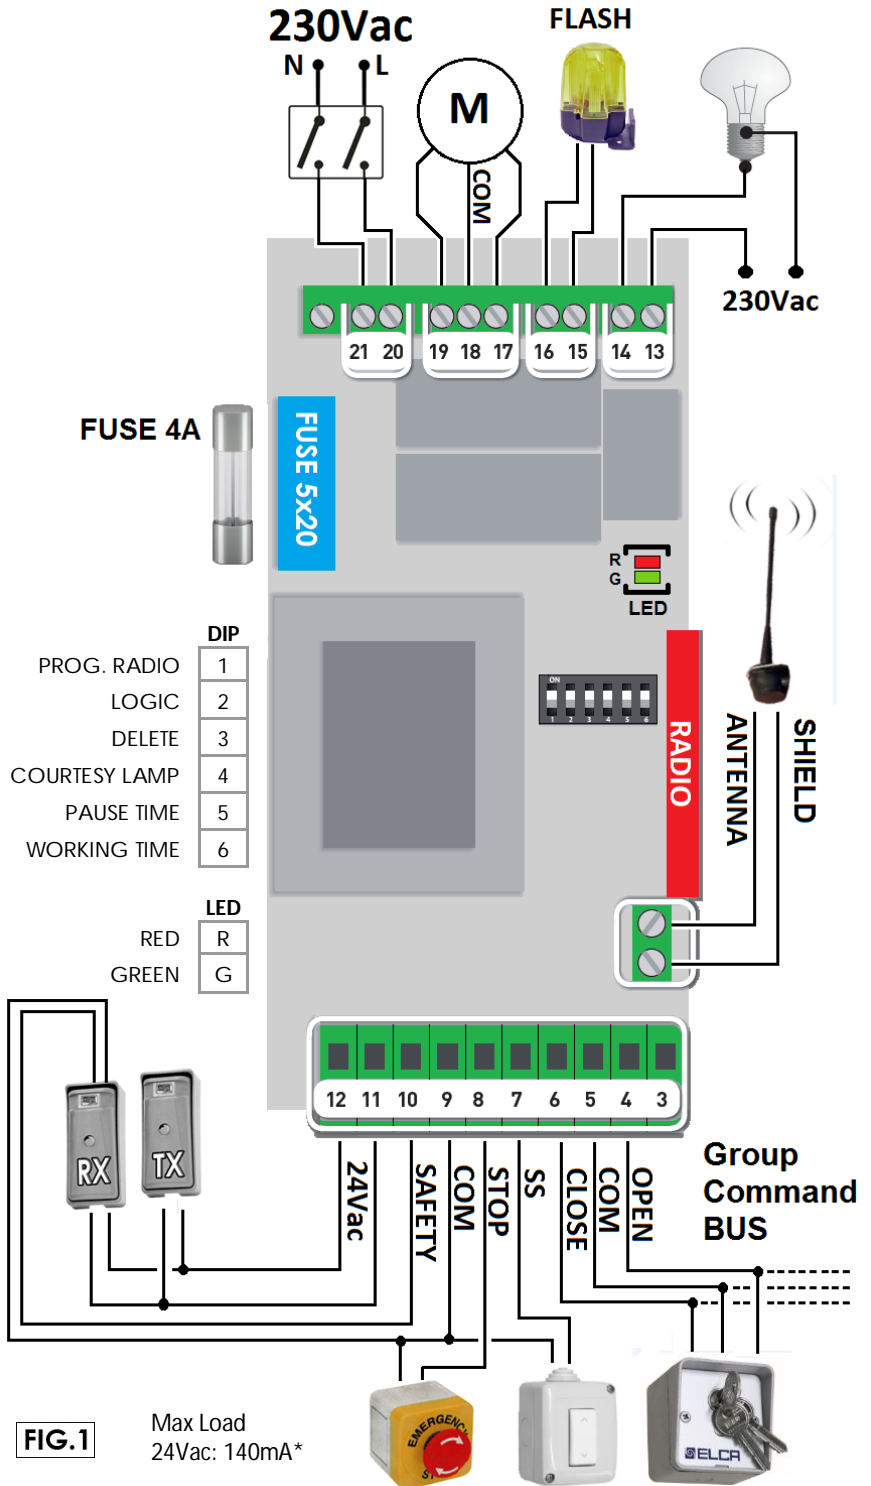

FIG.1
**ATTENTION!!:** To use the transmitter, the board must have the radio receiver. (see fig.1 , pag.1)